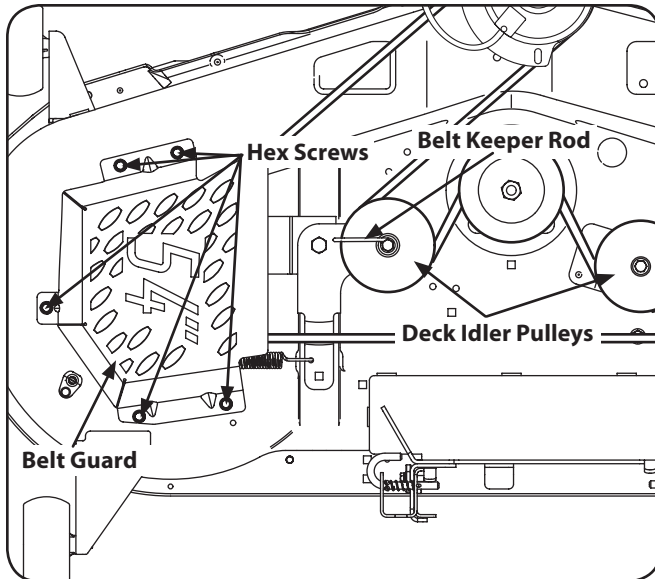

Figure 7-10
2. Remove the belt guards by removing the hex screws that fasten them to the deck. See Figure 7-10.
3. Loosen, but do not remove, the belt keeper rod and left deck idler pulley on the deck. Refer to Figure 7-10 above.